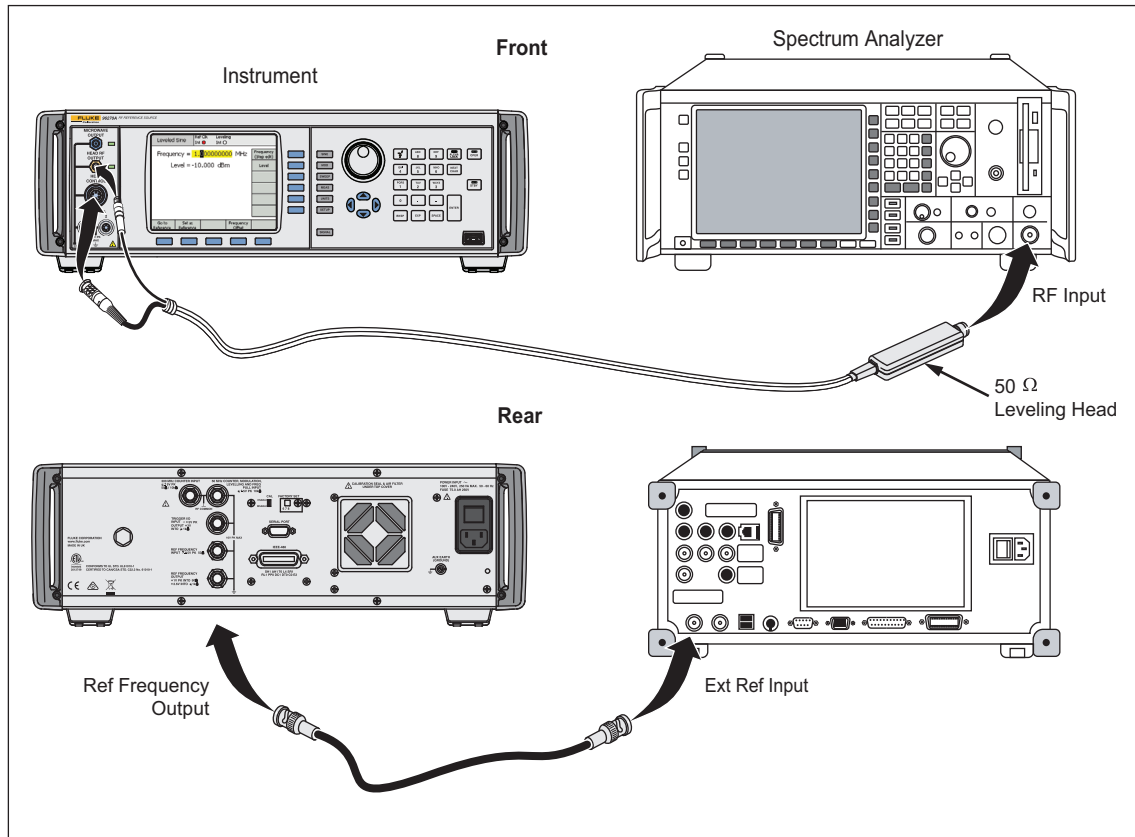

Figure 3-7. Equipment Connections - 50 Ω Leveling Head, Low Level Accuracy Test Points
28. Connect the Leveling Head to the RF INPUT of the Measuring Receiver and connect the REF FREQUENCY OUTPUT (rear panel) from the UUT to the Spectrum Analyzer Ext Ref In (on rear). See Figure 3-7 for equipment connections.